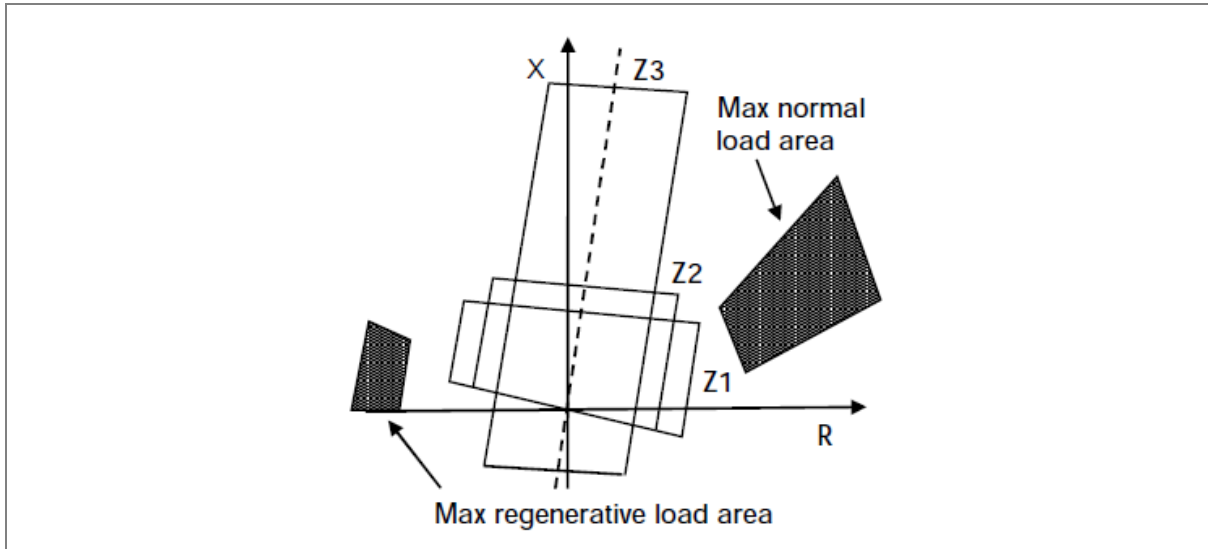

Figure 5: Polar impedance plot of typical trip characteristics
Distance IEDs applied to a classical single phase system have two measurement inputs. One is a catenary-to-rail voltage input measured from a line or busbar-connected voltage transformer. The other is a track feeder current input measured from a current transformer for the circuit breaker feeding the protected section. Distance IEDs divide the vectors Voltage (V) / Current (I) to determine the load or fault impedance (Z). Typical IED characteristics are shown in the $R + jX$ impedance plane, as shown in Figure 5.
Faults on the catenary present impedance to the IED along the dotted line shown in Figure 5. The quadrilateral characteristics shown are directionalised to match the expected fault impedance of usually 70 to 75 degrees leading the resistive axis. The closer the fault is to the IED, the lower the measured fault impedance. Therefore the trip decision is given when the measured fault impedance falls within the tripping zones. Three zones (shown Z1, Z2, Z3) are commonly applied. The reach along the resistive axis is constrained to avoid tripping of the load current. All impedance reaches for distance zones are calculated in polar form: $Z \angle \Phi$, where Z is the reach in ohms and Φ is the line angle setting in degrees. For railway systems, where all catenaries share the same line angle, you can add and subtract section impedances algebraically, treating Z as a scalar quantity.